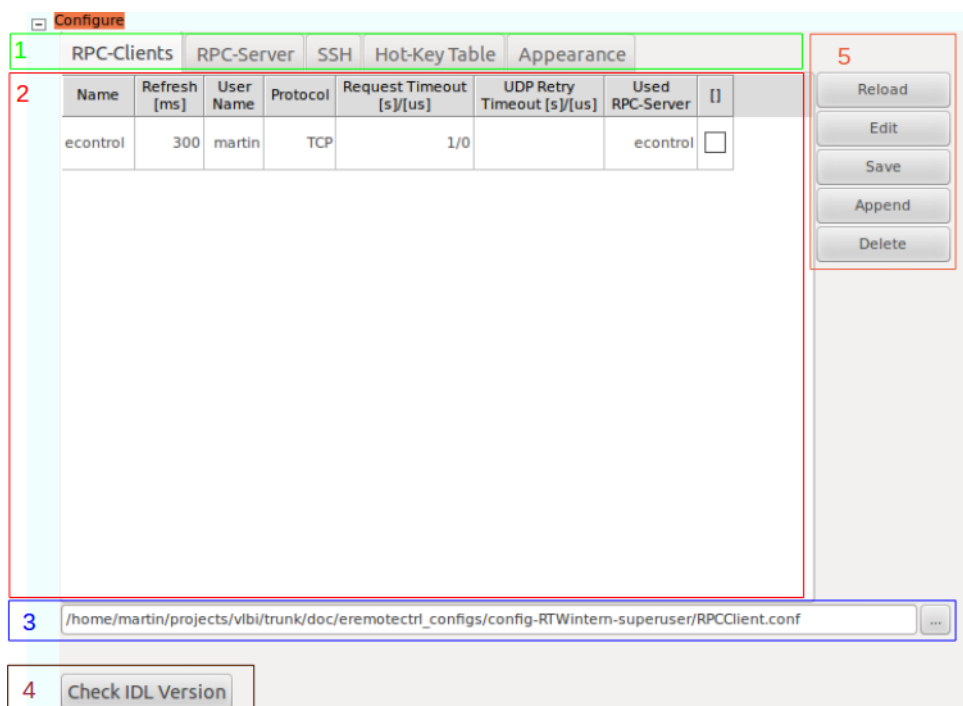

Figure 1.4: The e-RemoteCtrl configuration display
It opens the configuration display (see fig. 1.4).
Also the management of the configuration file (like saving, reloading or showing of the file) can be handled in this display (see fig. 1.4, section 5). The path to the currently selected configuration file and a possibility to switch to another file is available here (3). Additionally it is possible to compare the versions of the e-RemoteCtrl client and server, after a connection was established (4).
- Section 1 in fig. 1.4
- Section 2 in fig. 1.4
- Section 3 in fig. 1.4
- Section 4 in fig. 1.4
- Section 5 in fig. 1.4